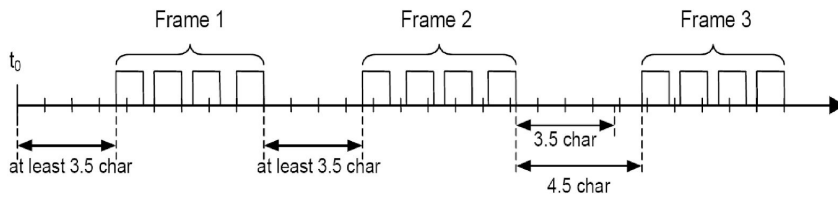

Figure-4 ModBus frame interval
- T1-T2-T3-T4 is the start or stop frame. ModBus protocol requires every two frames must have a minimum 3.5 char delay as shown below in figure-4.